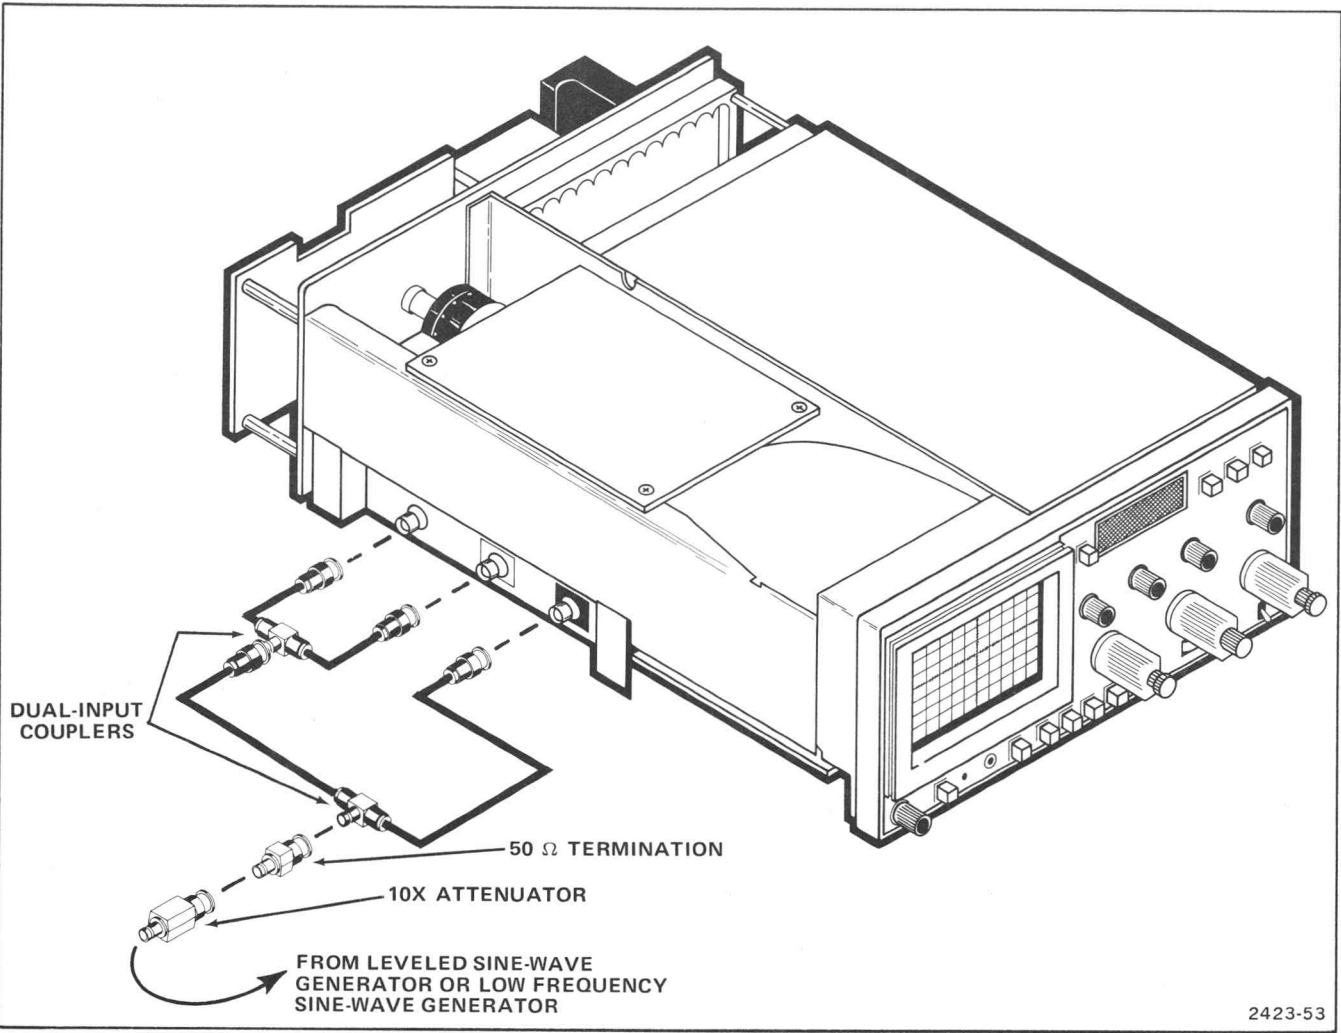

Fig. 4-4. Equipment setup for trigger sensitivity.
a. Connect test equipment to CH 1, CH 2, and EXT TRIG inputs as shown in Fig. 4-4.
c. Disconnect the test setup of Fig. 4-4 from the 305.